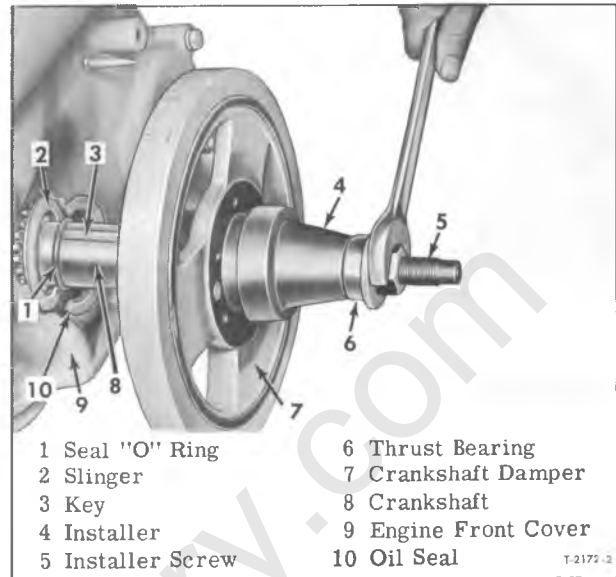
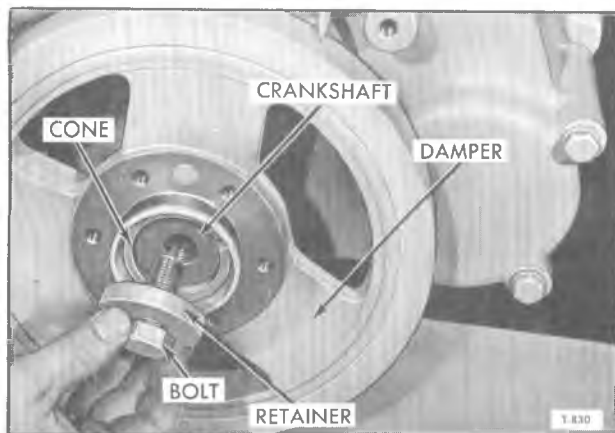

Figure 12—Installing Crankshaft Damper
Figure 13—Crankshaft Damper Retainer Parts
Key numbers in text refer to figure 12.
1. Place new seal O-ring (1) on crankshaft and position squarely at inner end of damper key (3) as shown in figure 12. DO NOT PLACE SEAL RING (1) AGAINST SLINGER (2). The seal ring must roll into hub counterbore when damper is installed.
2. Apply engine oil on damper hub at surface contacted by oil seal (10). Start damper onto crankshaft with keyway aligned with key (3). If damper does not slide onto crankshaft easily, installer screw (5) may be threaded into end of crankshaft and installer (4) and thrust bearing (6) may be used to install damper.
3. Referring to figure 13, install cone, retainer washer, and bolt as shown. Tighten damper retainer bolt to torque shown on page 302.